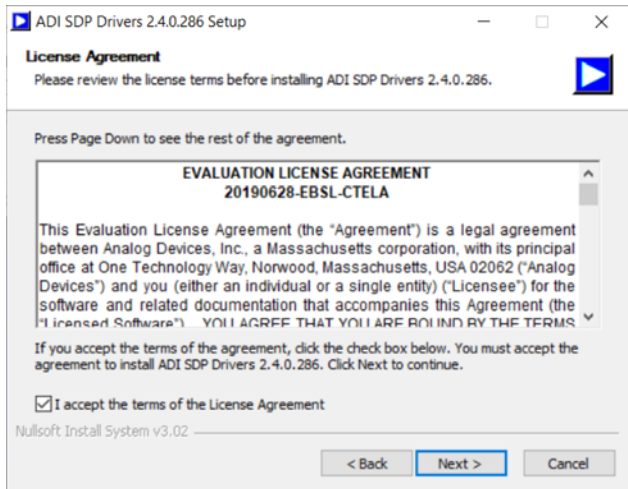

Figure 7. ADI SDP Drivers 2.4.0.286 Setup License Agreement
3. Accept the License Agreement, and click **Next >** (see Figure 7).